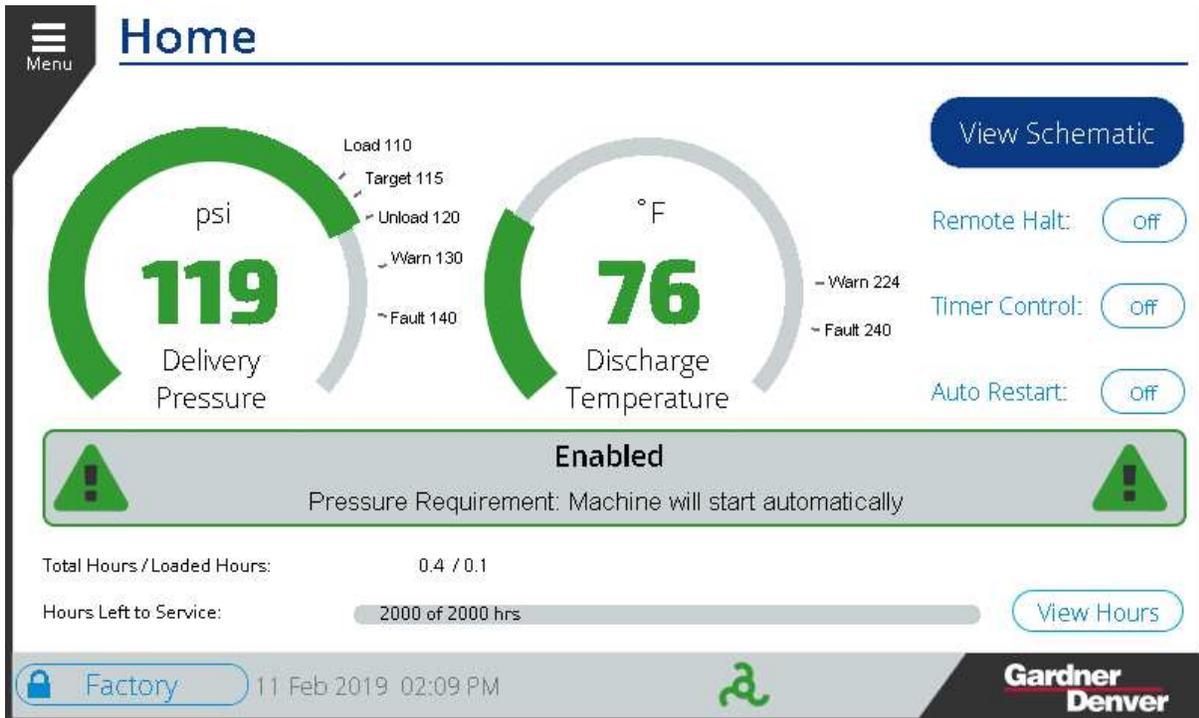

Figure 61: Home Screen Enabled
- If the pressure remains above the load pressure with the inlet valve closed for a set amount of time based on the machine design, the controller will stop the motor until the delivery pressure falls back below the Load pressure. While in this state, the Status Message Bar will indicate that the machine is enabled and will start when the pressure requirement is met as shown in Figure 61.